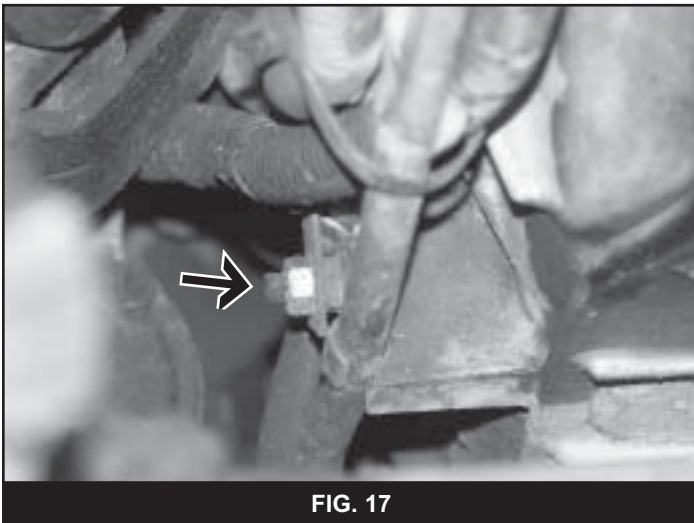

FIG. 17
27. Remove the bolt/clip mounting the oil cooler lines to the passenger's side of the engine oil pan (Fig 17). Remove the lines from the pan.